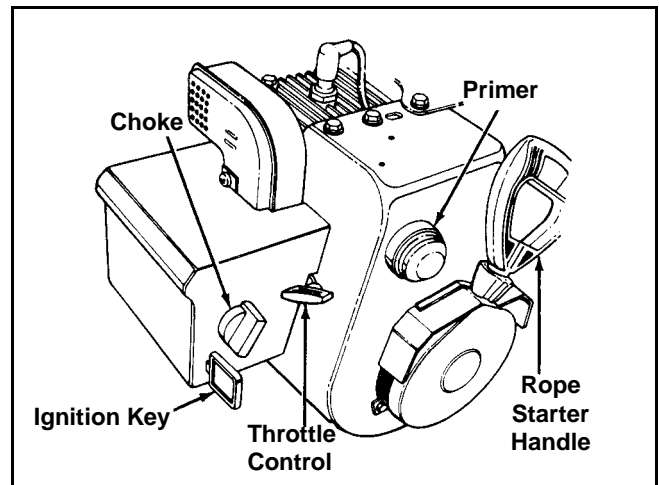

Figure 7
- Move throttle control up to FAST position. Insert ignition key into slot. See Figure 7. Be certain it snaps into place. **Do not** turn the key.
- **Recoil Start Only:** Push primer button two or three times when using recoil starter. If engine is warm, push primer button once only. See Figure 7.
- **Recoil Start:** Grasp starter handle (see Figure 7) and pull rope out slowly, until it pulls slightly harder. Let rope rewind slowly. Pull starter handle rapidly. Do not allow handle to snap back. Allow it to rewind slowly while keeping a firm hold on the starter handle.